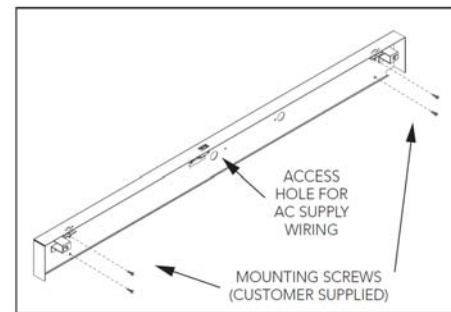

Figure 3
1. Hold the fixture Backplate (oriented as shown in Figure 3) against the wall in the desired location making sure the wiring access hole is positioned over the electrical junction box. Place a bubble level against the top edge and adjust positioning until the Backplate is level.